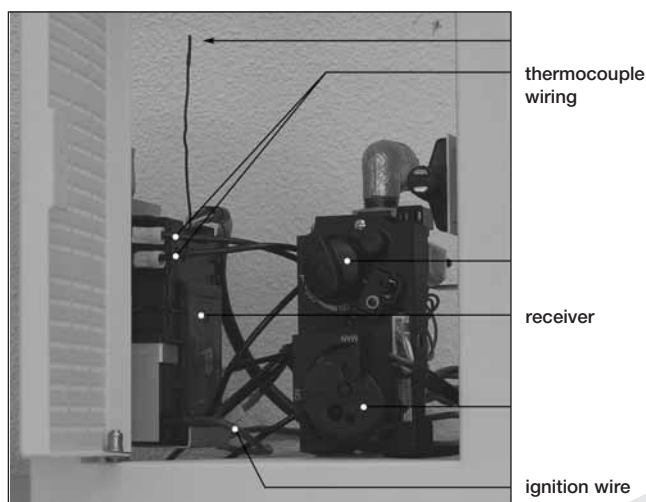

fig. 12
- Place the receiver in the control box, as indicated on fig. 12.
Caution: Do not place the antenna too close to the ignition cable and/or metal parts (for the correct position, see fig. 12);
The receiver is located in the control box (see fig. 12).
- Place the receiver as indicated in fig. 12.
- Do not place the antenna too close to the ignition cable and/or metal parts: make sure the antenna is pointing upwards (for the correct position, see fig. 12);